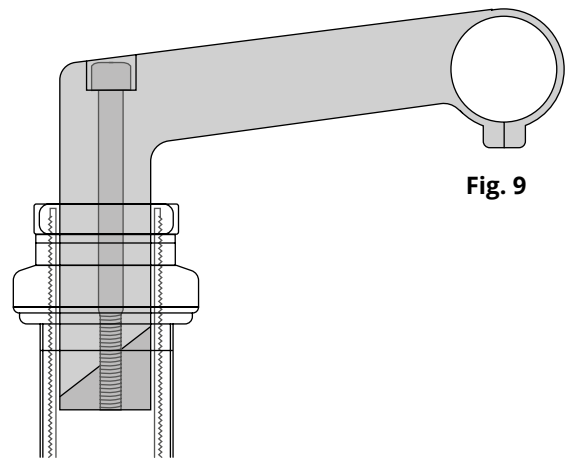

Fig. 9
If your Ebike has a “quill” stem (FIG 9) Please contact **BIKE.com** at cs@bike.com or call at 1-(877)-755-2453(BIKE) or ask your dealer for support to adjust the handlebar height a bit by adjusting stem height. A quill stem has an etched or stamped mark on its shaft that designates the stem’s “Minimum Insertion” or “Maximum Extension”. This mark must not be visible above the headset.
2. A hollow axle with a shaft ("skewer") running through it which has a nut on one end and a fitting for a hex key, lock lever or other tightening device on the other (through bolt, fig. 9)